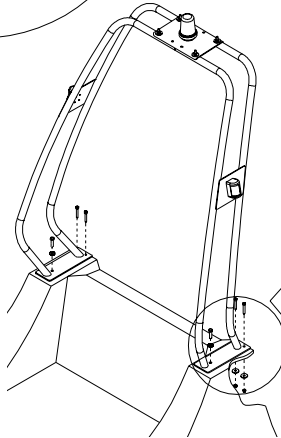
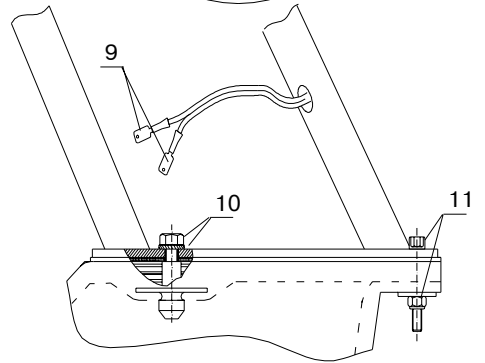

Fig. D3
Fig. D4
4. Set the arc onto transom platform. Previously pull the electrical cable clamps, outgoing from the right rack (Pos.9), (Fig. D4), through the hole, 12 mm in diameter, in the right stern plate beading. Fix the arc with the help of two bolts M8x25, two arrester washers 8 (Pos.10), (Fig. D3, D4), four bolts M6x40, four washers 6x24, four self-locking nuts M6 (Pos.11), (Fig. D3, D4).